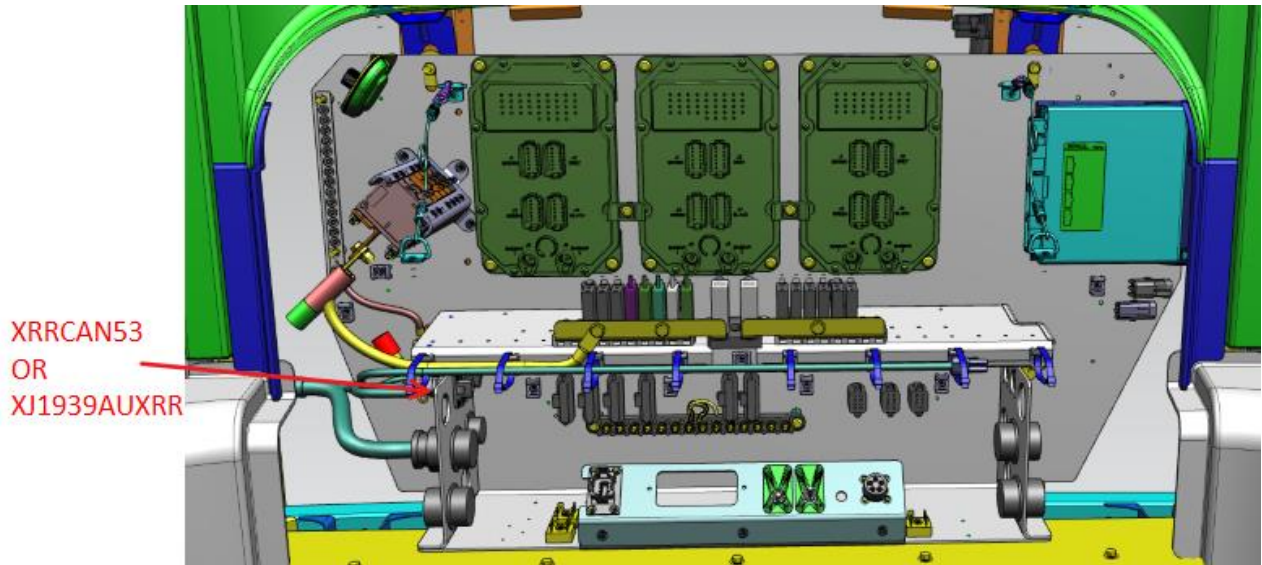

Figure 1: Rear panel
1. Gain access to the rear panel by using a square key to unlatch the access door. Refer to Figure 1.
2. Locate the appropriate three cavity CAN line connector at the rear panel and disconnect it. The connector will be connecting the RH Options harness to the rear panel harnessing. Refer to Table 1 and Figure 1.